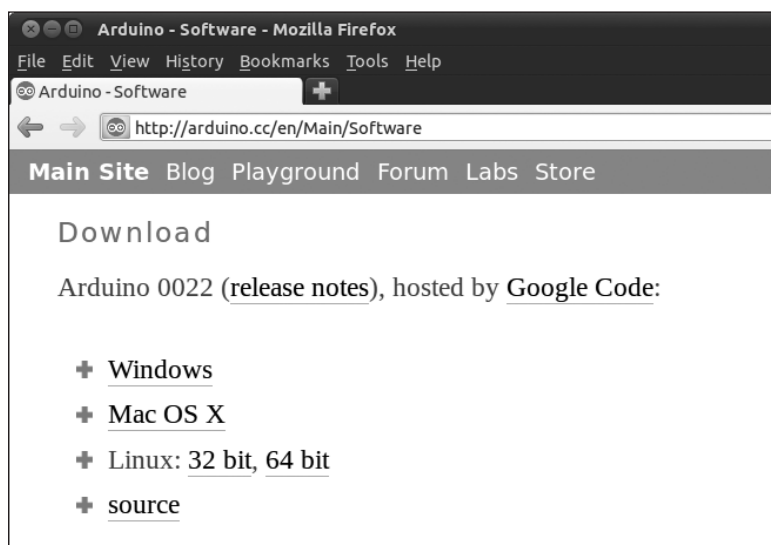

Figure 1-23: The IDE download page in Ubuntu Firefox
1. Using a web browser such as Firefox, visit the software download page located at <http://arduino.cc/en/Main/Software/>, as shown in Figure 1-23.